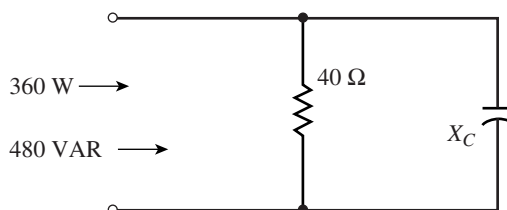

FIGURE 17-36
9. For Figure 17-36, find X_C .